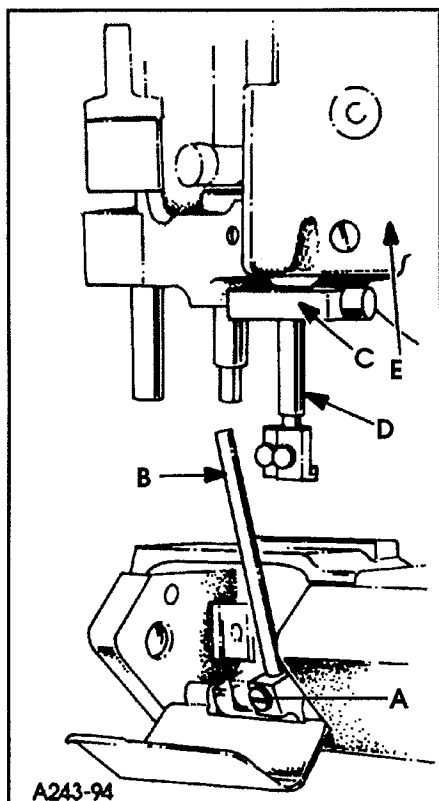
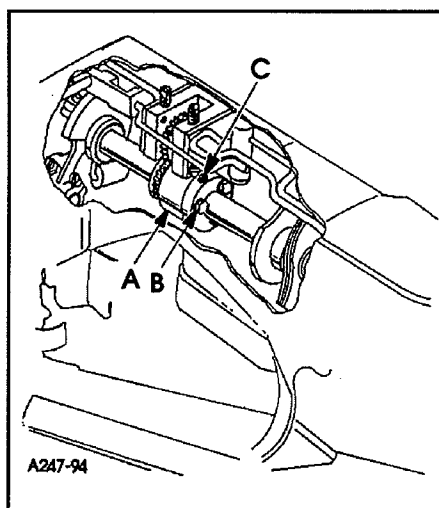

FIG. 2
FIG. 3
To synchronize the machine, remove the needles, presser foot, throat plate, feed dogs and upper feed roller mechanism. Rotate handwheel in the operating direction until the needle bar is at the bottom of its stroke and just begins its upward travel. Loosen screw (A, Fig. 2) and remove the looper for the left hand needle from the looper holder. Insert a straight steel rod (B) 5/32" (3.4mm) or 11/64" (4.3mm) diameter by 2-1/2" (63.5mm) long into looper holder and retighten screw (A). It may be necessary to reposition the looper holder so that the rod (B) will be in a vertical position when at its farthest travel to the right. Rotate the handwheel until the rod is at extreme left, reinstall the throat plate. Turn the handwheel in the operating direction, with needle bar rising until rod (B) comes in contact with the edge of the throat plate. At this point, clamp Union Special timing gauge No. 21225H (C) around the needle bar (D), flush against the underside of the machine casting (E). Rotate handwheel in the opposite direction until either the gauge contacts the machine casting on the up stroke of the needle bar or the rod contacts the edge of the throat plate. Maximum allowable clearance between gauge and casting or rod and throat plate is .005" (.1mm)
Both ends of the adjustable split coupling are secured to the crankshaft and main shaft by spot screws and set screws. On the main shaft end of the coupling (A, Fig. 3) three screws (B) thread horizontally through the coupling. The holes in the main shaft end of the coupling are larger than the diameter of the screws, permitting several degrees of rotation in either direction to properly synchronize the needle and looper. Loosen the three horizontal clamp screws (B, Fig. 3). With rod (B, Fig. 2) at its farthest position to the left, snug the uppermost horizontal clamp screw enough to hold coupling (A, Fig. 3) in position. If the handwheel is turned in reverse of operating direction and gauge (C, Fig. 2) on needle bar (D) contacts the machine casting (E) before rod (B) contacts the edge of the throat plate, loosen horizontal clamp screw (B, Fig. 3) which was snug, while holding the coupling in place with an Allen wrench in set screw (C). Rotate the handwheel slightly in reverse of operating direction, snug the uppermost horizontal clamp screw (B), recheck synchronization. If the handwheel is turned in reverse of operating direction and the rod contacts the edge of the throat plate before the clamp gauge contacts the machine casting, adjust as before, except turn the handwheel slightly in the operating direction. Use shim stock to insure no more than .005" (.1mm) exists between gauge and casting or between rod and throat plate, in both the operating and reverse directions of the handwheel. When this setting has been made, tighten the three horizontal clamp screws (B, Fig. 3) securely, and recheck both clearance points with .005" (.1mm) shim gauge to assure no slippage occurred while tightening the screws.